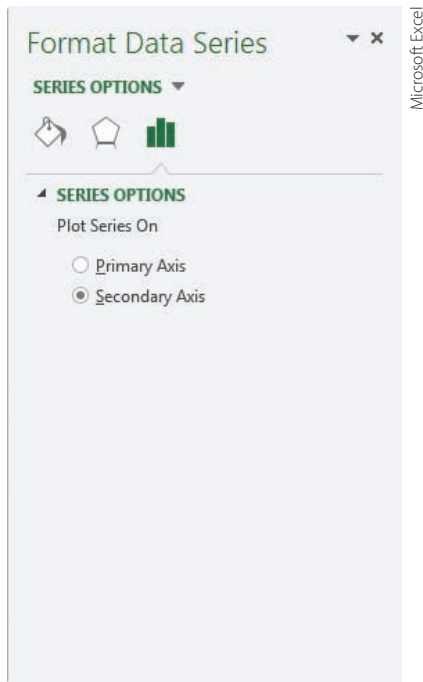
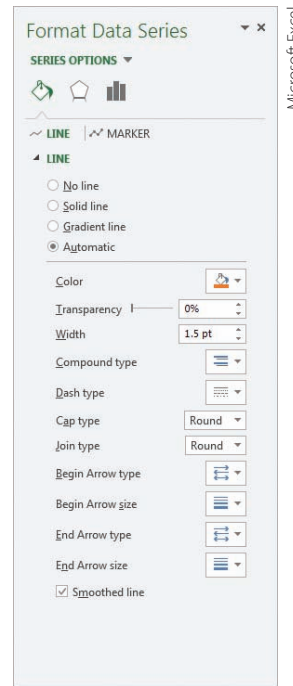

FIGURE 14.24
FIGURE 14.25
5. With the mouse pointer over the Gallons Per Mile curve, double-click the left mouse button. Choose **Format Data Series...**, then under Series Options, turn on the Secondary Axis (Figure 14.24). You may also want to change the line style (Figure 14.25) to dash lines so when you print your chart, it will be easier to compare the two curves.